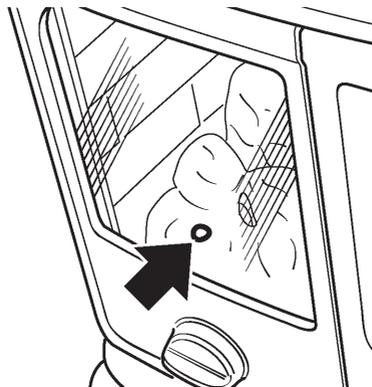

Figure 3
- Push in the right control knob (the pilot lighting knob) and, while keeping it depressed, turn anticlockwise through the ignition position marked  and up to the pilot position marked . The spark should light the pilot. The pilot flame can be seen by looking through the gap in the left front coal – See figure 3.